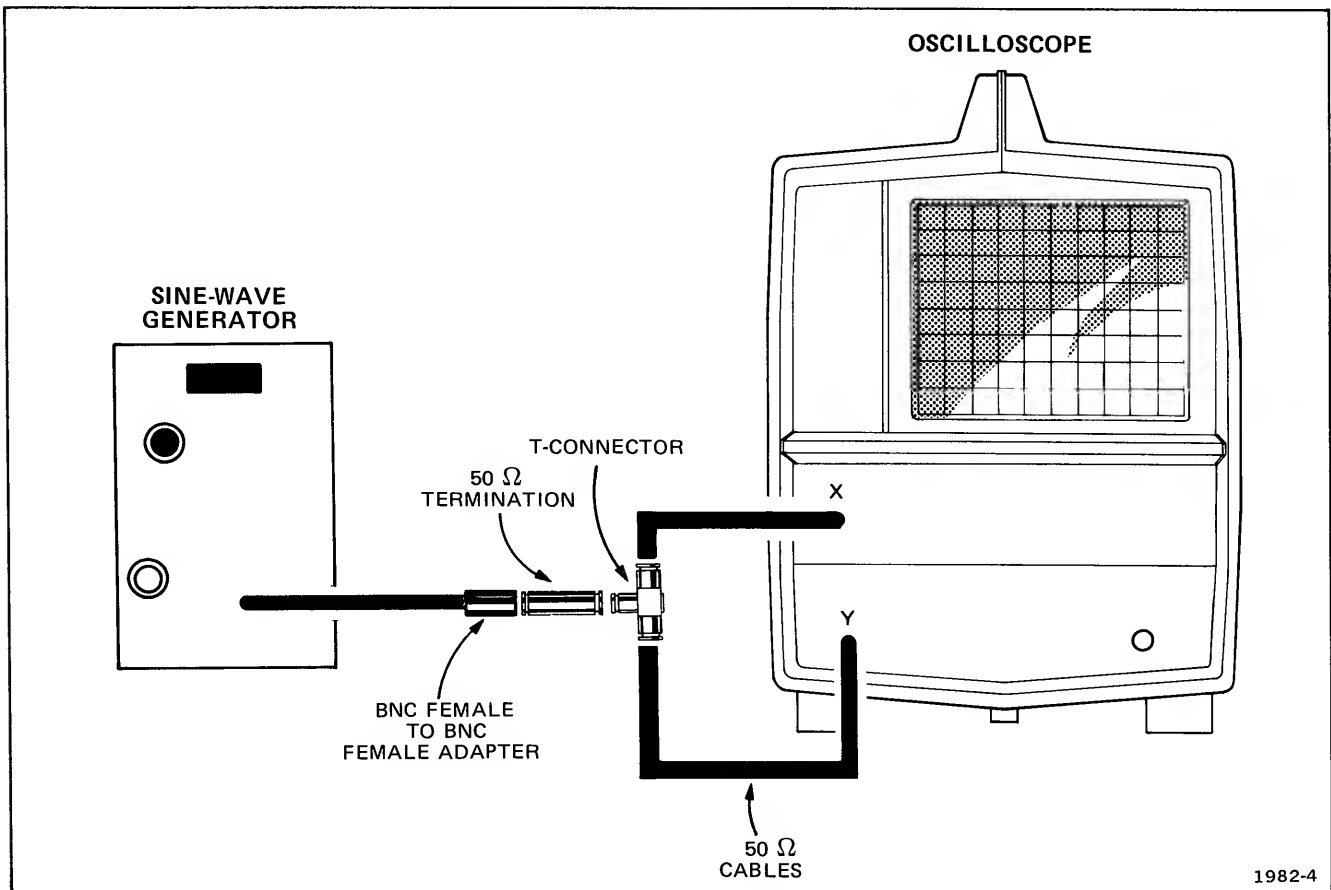

Fig. 3-3. X Gain, Triggering, and Z-axis Input check test setup.
b. Connect test equipment as shown in Fig. 3-3 and set generator output amplitude to .5 V, and frequency to 50 kHz.
- a. Connect test equipment as shown in Fig. 3-3.